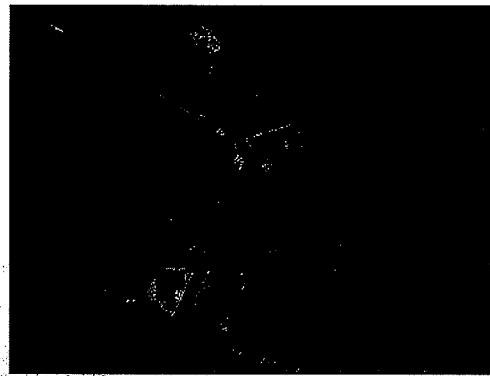

Figure 38
- Drain solution tank (see figure 38).